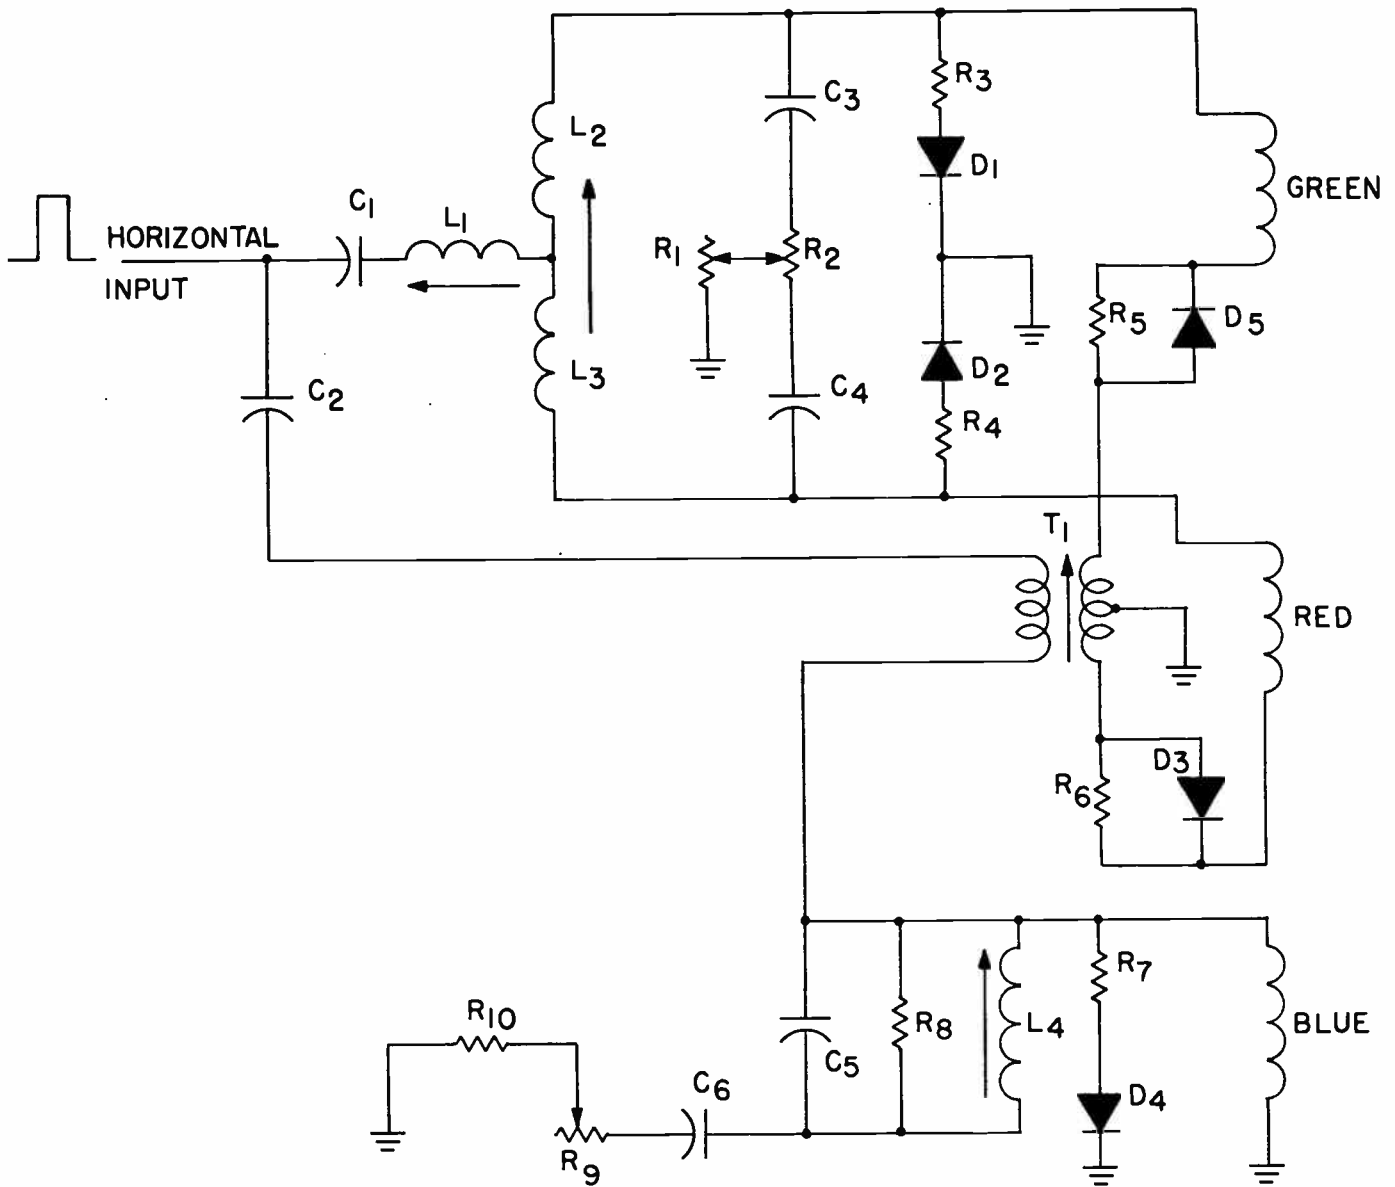

Fig. 50. The horizontal convergence circuits in a color TV receiver.
The horizontal sweep output circuit shown in Fig. 42 is used in conjunction with the convergence circuit shown in Fig. 50. A separate winding on the horizontal output transformer provides a series of pulses to the burst-gate amplifier and to the convergence board. We'll concern ourselves with red and green convergence first, and then with blue convergence later.
The blue horizontal convergence adjustments consist of a blue horizontal amplitude and a blue horizontal tilt. T_1 in Fig. 50 controls the blue amplitude; it is adjusted to give you convergence of the blue horizontal line in the center of the screen from the center to the right side, as shown in Fig. 52C. After you have completed this adjustment, adjust the blue horizontal tilt,
- (al) In the circuit shown in Fig. 50 what effect does adjusting L_1 have on the current flowing through the green and red convergence coils?
- (am) What effect does adjusting the slug in the coil $L_2 - L_3$ in the circuit shown in Fig. 50 have?